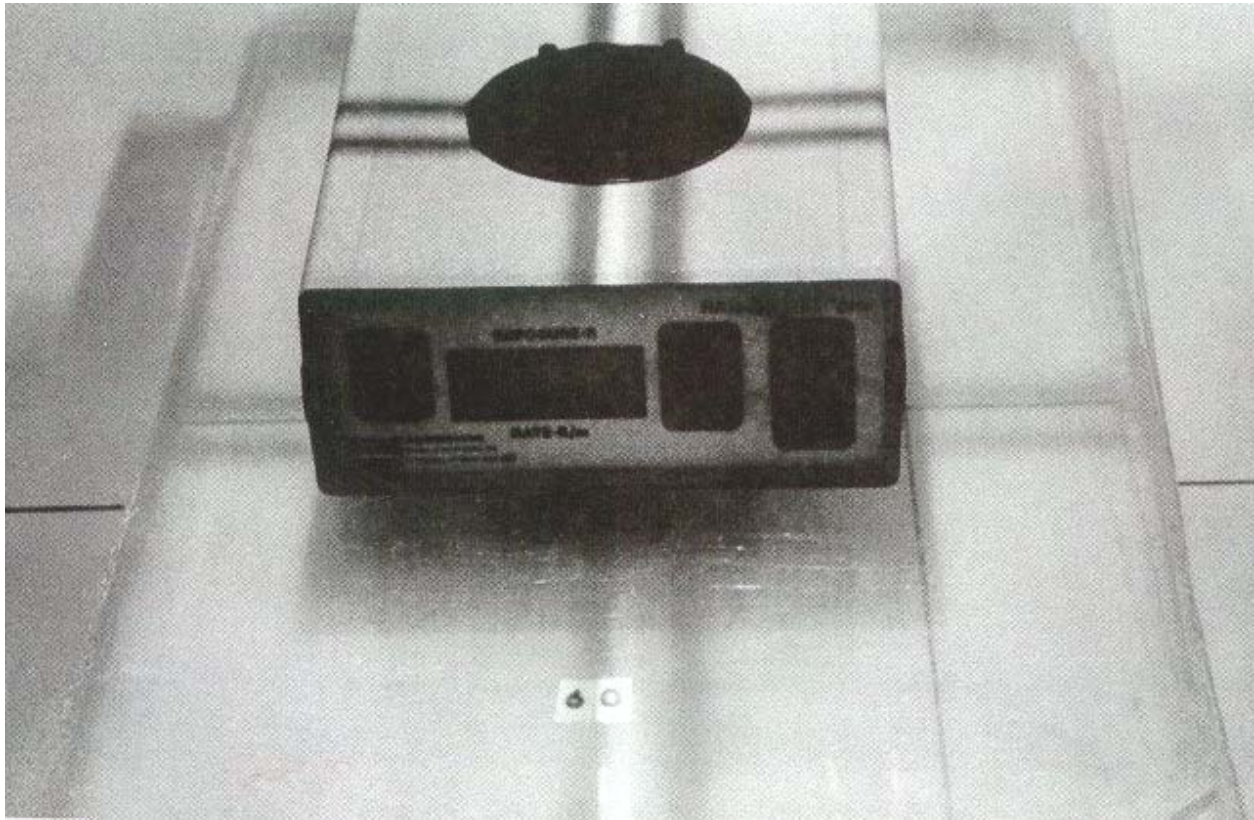

Figure 4-21. Same set up as the reproducibility test.
- b. Set the technical factors (see figure 4-21).
- (1) 60 kVp.
- (2) For example, 400 mA.